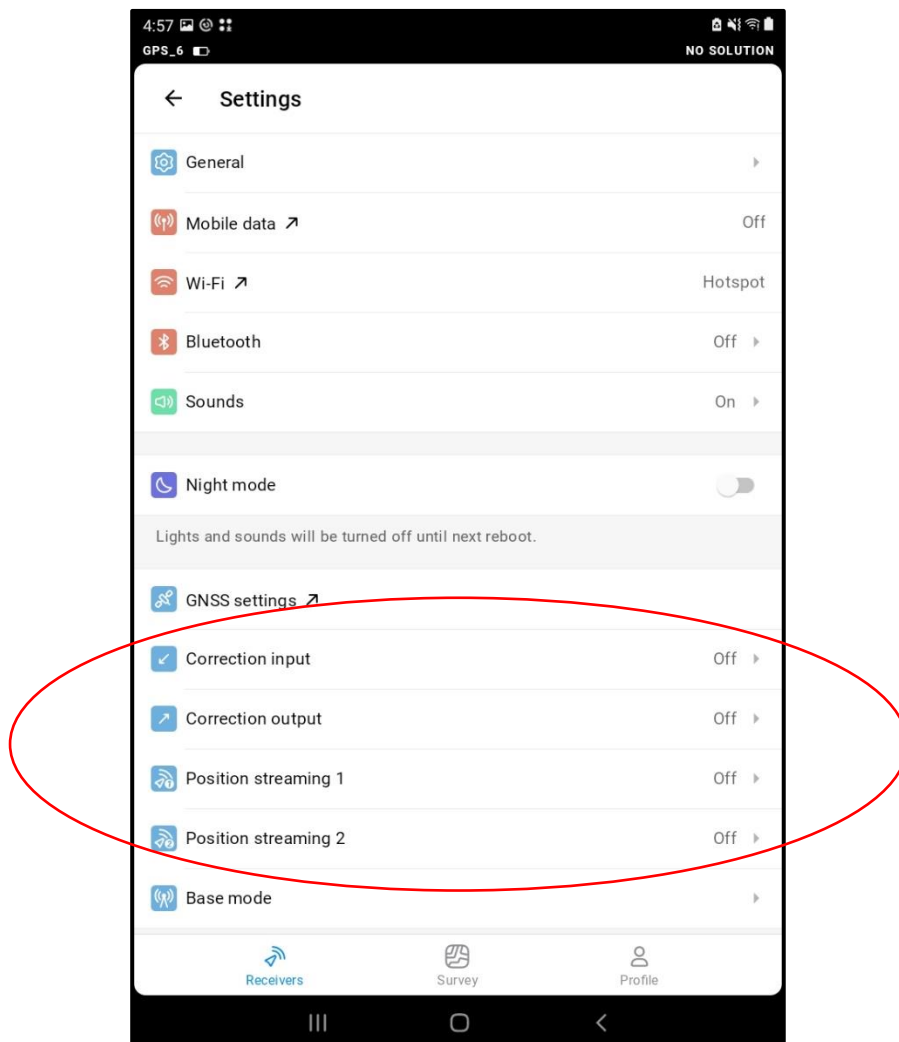

Figure 21. Figure showing correction and position settings turned to off with red circle around target settings.
- a. Check Correction and Position Settings (Figure 21)